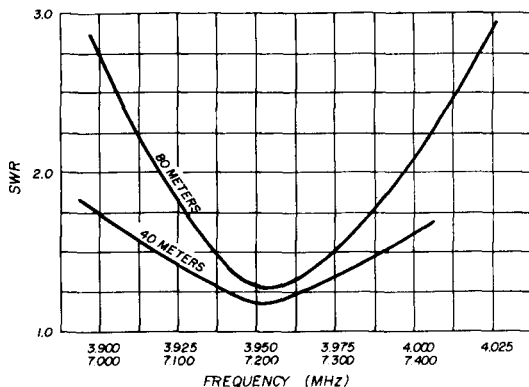

fig. 4. Standing wave ratio versus frequency for the compact dual-band dipole. Curves were optimized for antenna height.
Taking an swr of 2:1 as par, the plot of **fig. 4** shows the swr of the dual-band dipole when operated at optimum height above ground. The data for these curves was taken at the end of a 100-foot length of 50-ohm coaxial cable.
The 80-meter antenna is a different breed of cat. Because of folding, the 80-meter dipole's radiation resistance is lower. It's about 60 percent of the usual measured value at all heights above ground. The 80-meter antenna plot of **fig. 4** occurred at about 50 feet and remained reasonably constant down to 40 feet. Below this height, minimum swr increased rapidly, tending to decrease the over-all bandwidth.
Accepting these facts of life, I finally mounted the antenna so that the flat top was about 45 feet high. The 40-meter-band swr wasn't as good as shown in **fig. 4**; however, it remained below 2:1 from
7.1 to 7.3 MHz It was still acceptable at 7.0 MHz, as no equipment-loading problems were encountered at this frequency. The 80-meter swr values were as shown in fig. 4.